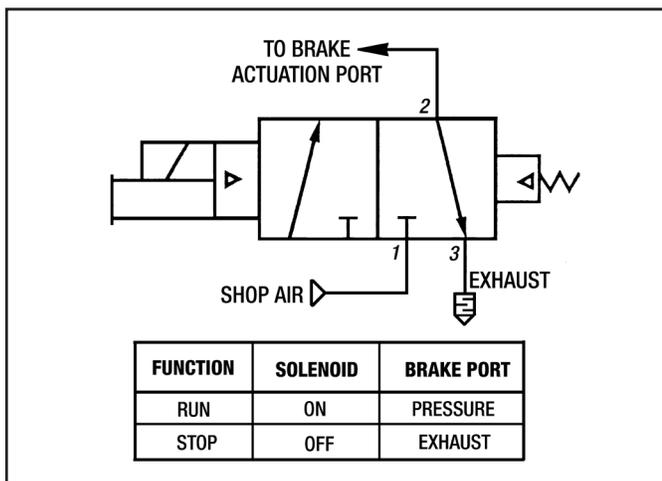

*Figure 10 - Attaching End Housing*
The Breather (#45) is to be located on the top as shown in *Figure 10*.
Attach the End Housing with (8) Soc. Hd. Cap Screws (#72) and Lockwashers (#128) to a torque reading of **37 lb. ft.** (See *Figure 10*).